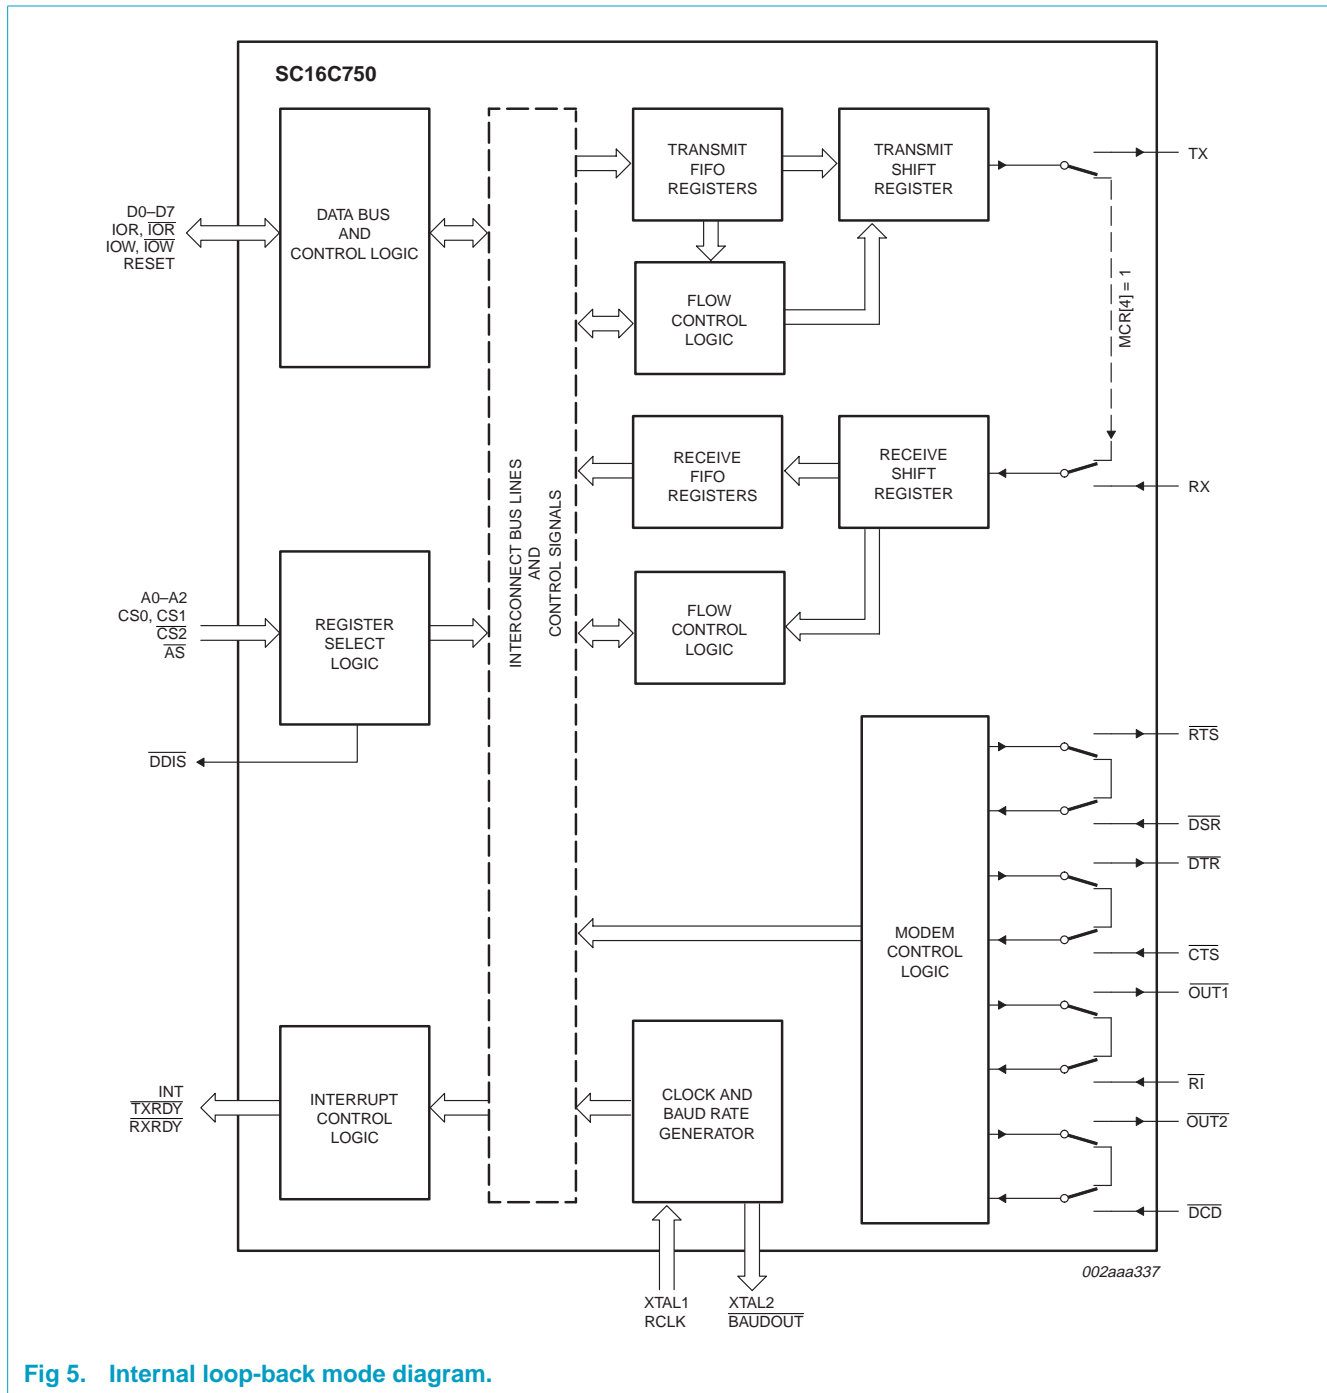

Fig 5. Internal loop-back mode diagram.
The internal loop-back capability allows on-board diagnostics. In the loop-back mode, the normal modem interface pins are disconnected and reconfigured for loop-back internally. MCR[0-3] register bits are used for controlling loop-back diagnostic testing. In the loop-back mode, OUT1 and OUT2 in the MCR register (bits 2-3) control the modem  $\overline{\text{RI}}$  and  $\overline{\text{DCD}}$  inputs, respectively. MCR signals  $\overline{\text{DTR}}$  and  $\overline{\text{RTS}}$  (bits 0-1) are used to control the modem  $\overline{\text{CTS}}$  and  $\overline{\text{DSR}}$  inputs, respectively. The transmitter output (TX) and the receiver input (RX) are disconnected from their associated interface pins, and instead are connected together internally (see Figure 5). The  $\overline{\text{CTS}}$ ,  $\overline{\text{DSR}}$ ,  $\overline{\text{DCD}}$ , and  $\overline{\text{RI}}$  are disconnected from their normal modem control input pins, and instead are connected internally to  $\overline{\text{DTR}}$ ,  $\overline{\text{RTS}}$ , OUT1 and OUT2. Loop-back test data is entered into the transmit holding register via the user data bus interface, D0-D7. The transmit UART serializes the data and passes the serial data to the receive UART via the internal loop-back connection. The receive UART converts the serial data back into parallel data that is then made available at the user data interface D0-D7. The user optionally compares the received data to the initial transmitted data for verifying error-free operation of the UART TX/RX circuits.